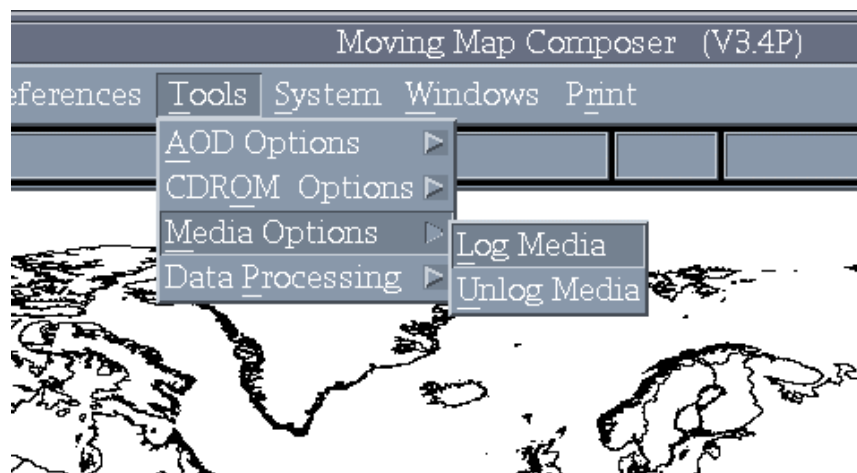

Fig. 10 – Media options
- a. From the main menu, click on *Tools*, then *Media Options*, then *Log Media* (Fig. 10).
- i. From the main menu, click on *Tools*, then *Media Options*, then *Log Media* (Fig. 10).